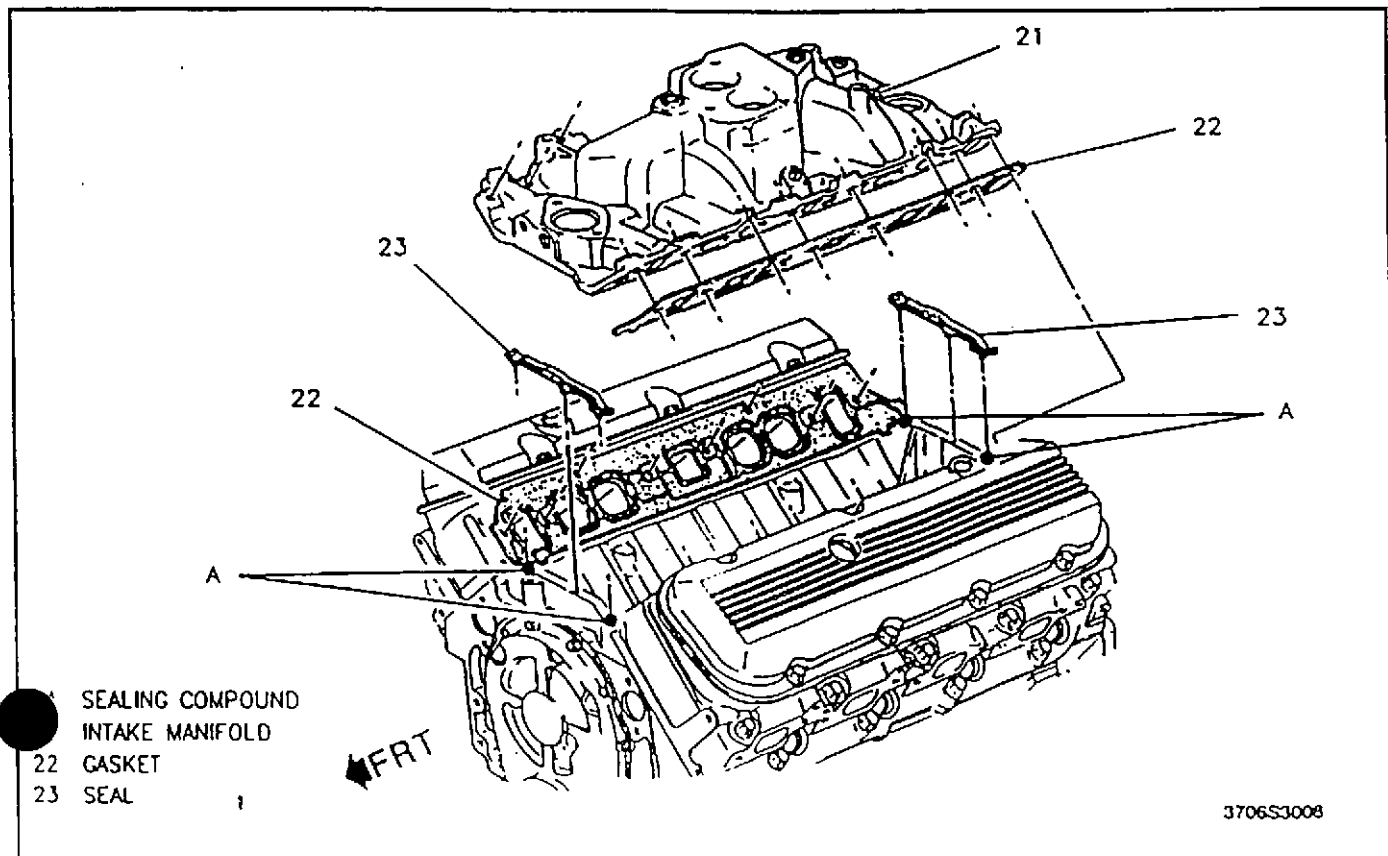

Figure 96—Intake Manifold (7.4L Engines)
Install or Connect (Figures 96 and 97)
1. Gaskets (22) to the cylinder heads.
- Apply a 5 mm (3/16-inch) spot of RTV sealer (GM P/N 1052289 or equivalent) on the front and rear of the block in four places as shown in figure 96.
2. Seals (23) to the block.